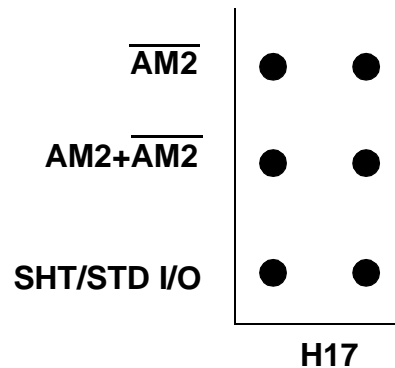
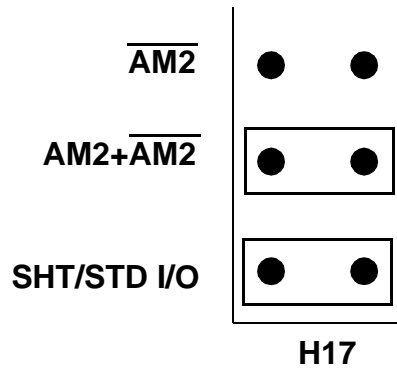

Figure 2-5 Jumper Configuration for Short Supervisory Access
Figure 2-10 Jumper Configuration for Standard Addressing and Supervisory or Nonprivileged Access
- To change the address modifier response, refer to Figure 2-5 through Figure 2-10.
The VMIVME-1128 is configured at the factory, as shown in Figure 2-5, to respond to short supervisory I/O access. This configuration can be changed by installing jumpers at the appropriate locations in header H17 as shown in the corresponding figures.
Short Supervisory	Figure 2-5 below
Standard (responds to either supervisory or nonprivileged)	Figure 2-10 on page 30